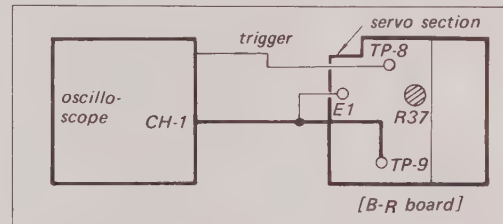

Fig. 7-2. Ramp slope adjustment test setup
1. Connect the scope to TP-9 on the B-R (Servo) board. See Fig. 7-2. Set scope sensitivity to 1 V/cm; time base to 2 msec/cm.